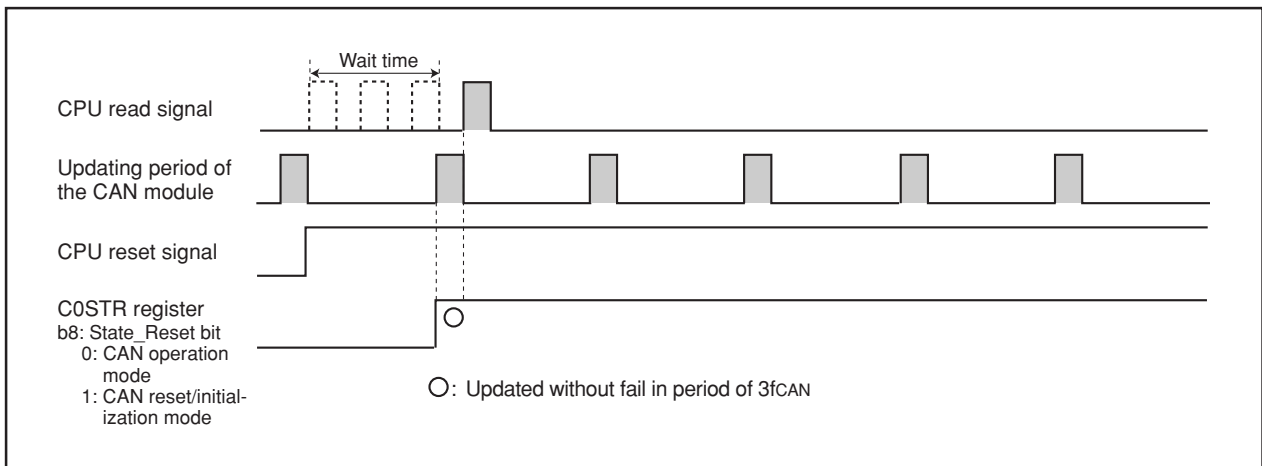

Figure 1.11.2 With a Wait Time of 3fCAN Before CPU Read
- (1) There should be a wait time of  $3f_{CAN}$  or longer (refer to Table 1.11.1) before the CPU reads the C0STR register. (Refer to Figure 1.11.2.)